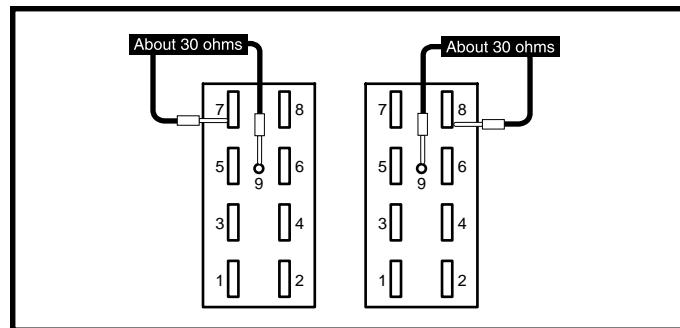

Figure 20. Connector 2a
2. Measure resistance across pin 9 and either pin 7 or pin 8 on connector 2a. **See figure 20.**
- *If your multimeter indicates about 30 ohms*, then replace the VSI controller (1) and retest the system.